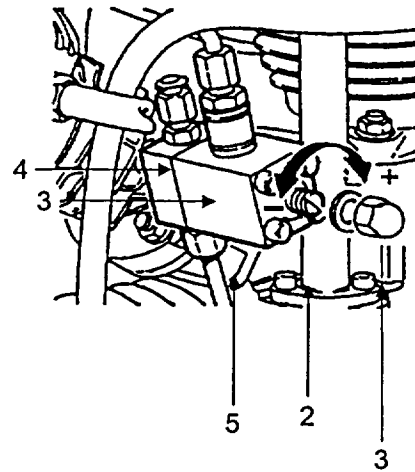

FIGURE 3-10. OIL PRESSURE REGULATOR
c. To fill with oil, pour 1.5 quarts of oil slowly into the oil filler neck. Wait five (5) minutes after filling, check oil level (A above), if necessary add oil, reinstall the filler cap, then start the compressor unit.
d. Check the operation of the oil pump. It is working properly if no bubbles are visible in the oil pressure regulating valve sight glass. (See figure 3-10, item 3).
- a. Remove cap nut (Figure 3-10, Item 1) to expose setscrew (2).
- b. Remove tube plug (4).
- c. Connect a calibrated oil pressure gauge to the oil pressure regulator test connector (4) to read oil pressure (the connector is 6mm L tube).
- e. Using a screwdriver, turn setscrew (2) in oil pressure regulator (5) to adjust oil pressure. Turn the setscrew clockwise to increase pressure; counterclockwise to reduce pressure.